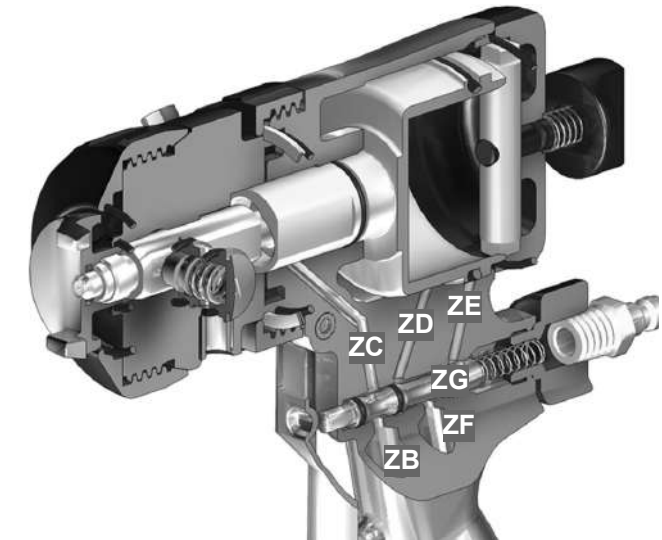

FIG. 1 Gun Handle Passages
- 2. If necessary, clean out passages in fluid housing and handle with drill bits. Refer to **TABLE 1** and to **FIG. 1** for diameter and location of passages.